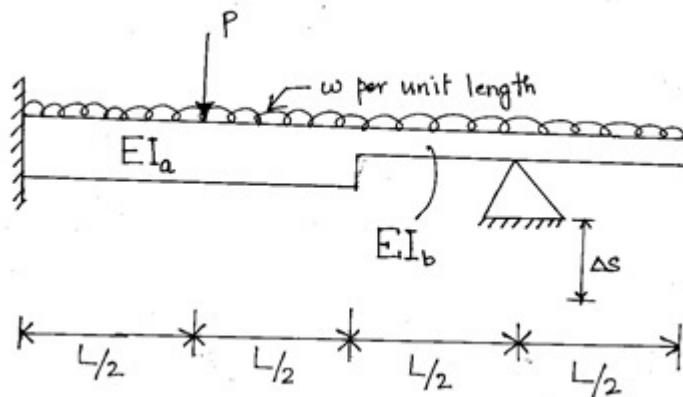

Figure 5.1
5. (a) For the beam shown in Figure 5.1, use FEM (consider 4 elements) to determine the nodal displacements, support reactions, and spring forces, and draw the shear force and bending moment diagrams. Given: $EI_a = 2 \times 10^6 \text{ N-m}^2$, $EI_b = 1 \times 10^6 \text{ N-m}^2$, $L = 10 \text{ m}$, $\Delta s = 0.01 \text{ m}$, $P = 5000 \text{ N}$, $w = 1 \text{ KN/m}$.